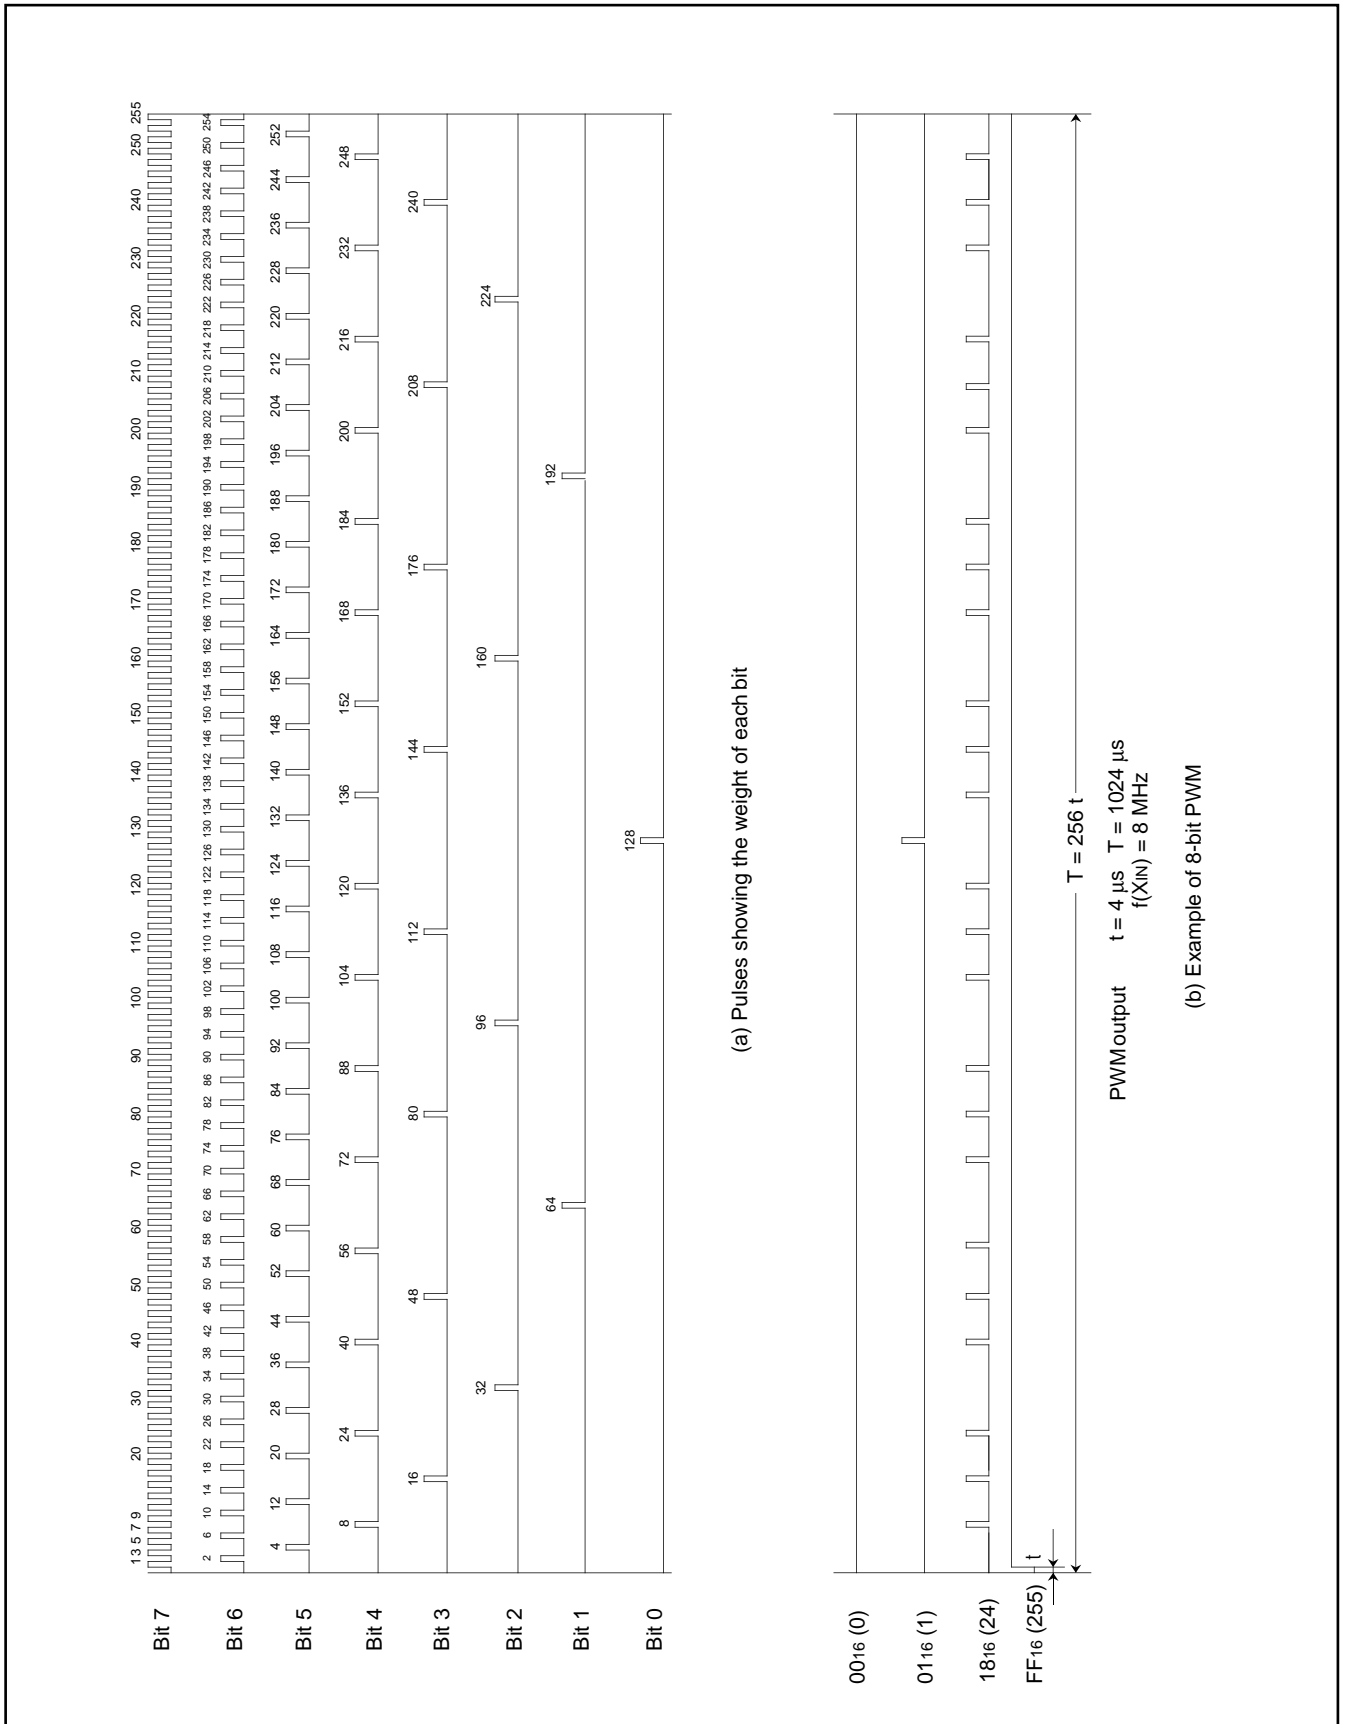

Fig. 13. 8-bit PWM timing
Figure 13 shows the 8-bit PWM timing. One cycle ( $T$ ) is composed of  $256 (2^8)$  segments. The 8 kinds of pulses relative to the weight of each bit (bits 0 to 7) are output inside the circuit during 1 cycle. Refer to Figure 13 (a). The 8-bit PWM outputs waveform which is the logical sum (OR) of pulses corresponding to the contents of bits 0 to 7 of the 8-bit PWM register. Several examples are shown in Figure 13 (b). 256 kinds of output (“H” level area:  $0/256$  to  $255/256$ ) are selected by changing the contents of the PWM register. A length of entirely “H” output cannot be output, i.e.  $256/256$ .